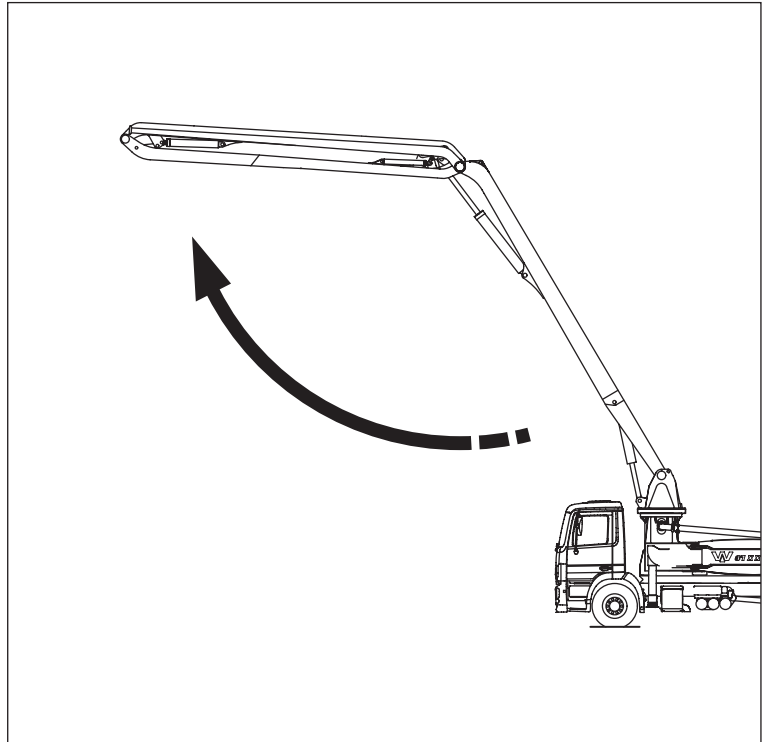
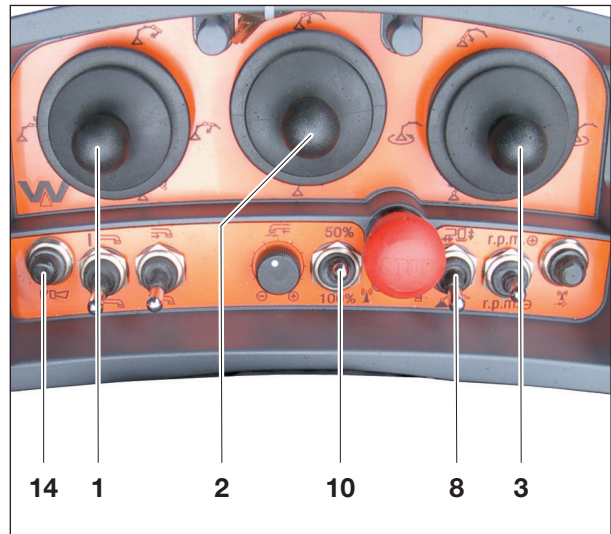

Fig. 7.14 Deploy boom element B
Fig. 7.18 Control. the distrib. boom from the radio remote control pendant
- Press the master switch “Deploy boom element A / Slew boom” (3) to move the distributor boom into the position where the discharge hose retainer can be opened.
- Press the master switch “Deploy boom element B” (2) and deploy boom element B until it is approx. 120° to boom element A (see Fig. 7.14).
- Release the Emergency Stop by pressing the Horn/Reset (Item 14, Fig. 7.18). The horn will sound.
- Switch the selector switch “Outrigger/ Boom” (Item 8, Fig. 7.18) to “Boom” and uncap the Emergency Stop button.
- The 50%/100% switch (Item 10, Fig. 7.18) controls the boom speed, 50% when pumping, 100% when deploying / stowing.
- Press the master switch “Deploy boom element A / Slew boom” (Item 3, Fig. 7.18) and deploy boom element A until the catch hook releases and the boom element B can be deployed (see Fig. 7.12).
- Press the master switch “Deploy boom element A / Slew boom” (Item 3, Fig. 7.18) to move the distributor boom into the position where the discharge hose retainer can be opened.
- Press the master switch “Deploy boom element B” (Item 2, Fig. 7.18) and deploy boom element B until it is approx. 120° to boom element A (see Fig. 7.14).
- Use the joystick “Deploy boom element C and D” (Item 1, Fig. 7.18) to deploy boom element C to 90° to boom element B (see Fig. 7.15).
- Use the joystick “Deploy boom element C and D” (Item 1, Fig. 7.18) to deploy boom element D to 90° to boom element C (see Fig. 7.16).